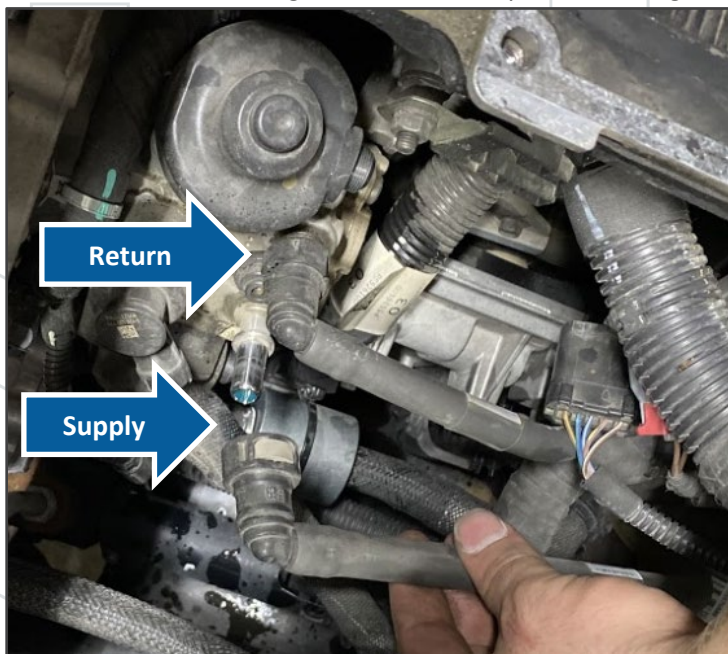

Figure 9
8. Remove the low-pressure fuel supply line (Figure 9) from the CP4 and filter:
10. Remove Fuel Pump Return Line (Figure 9):